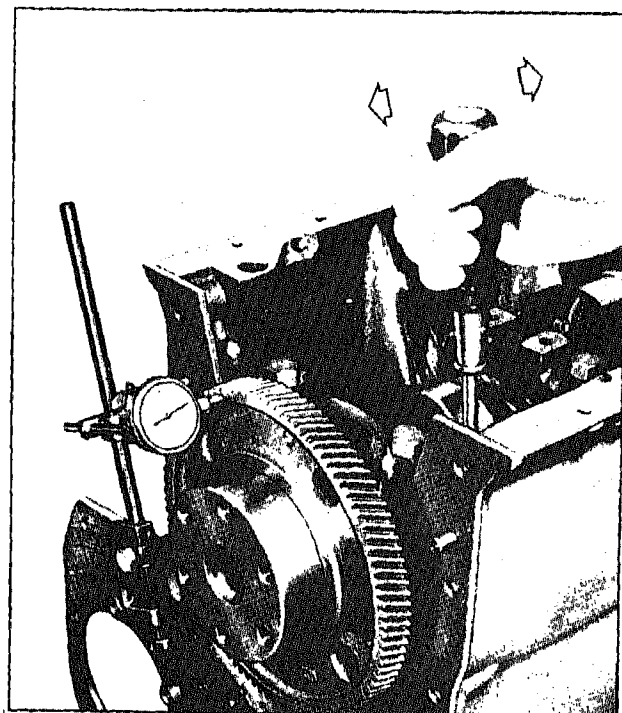

Fig. 11 - Checking Crankshaft End Play
7. Check the crankshaft end play by moving the crankshaft toward the gage (Fig. 11) with a pry bar. Keep a constant pressure on the pry bar and set the dial indicator to zero. Then remove and insert the pry bar on the other side of the bearing cap. Force the crankshaft in the opposite direction and note the amount of end play on the dial. The end play should be .004" to .011" with new parts or a maximum of .018" with used parts. Insufficient end play can be the result of a misaligned rear main bearing or a burr or dirt on the inner face of one or more of the thrust washers.